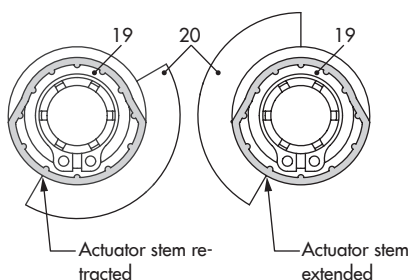
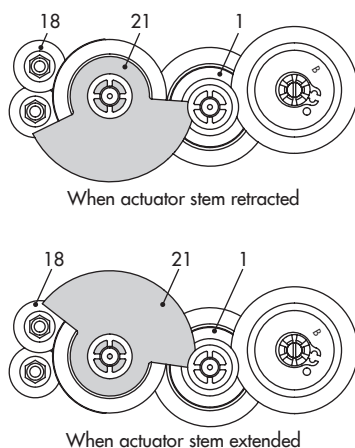
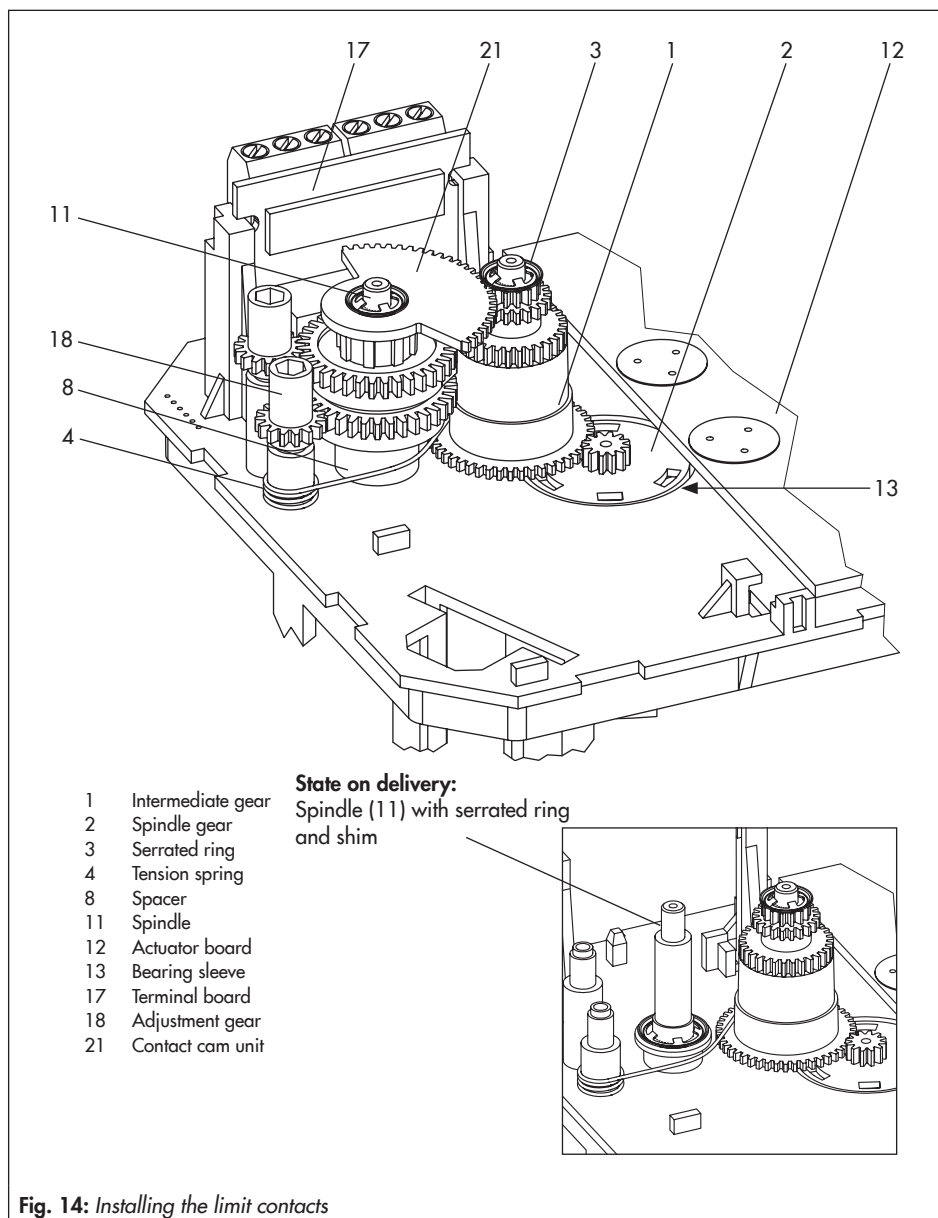

Fig. 12: Alignment of contact cam and cam holder
Fig. 13: Alignment of the contact cam unit
Fig. 14: Installing the limit contacts
Installing limit contacts (Fig. 12 to Fig. 14):
The contact cams (19) are ready-mounted to the cam holder (20) and the retaining rings (9) to form the contact cam unit (21, see Fig. 14).
3. Remove serrated ring and shim from spindle (11).
4. Slide adjustment gears (18) onto their spindles and fasten with one screw (16) each. Check whether the adjustment gears can be turned easily. If not, slightly loosen its screw again.
5. Turn contact cams (19) on the cam holder (20) as illustrated in Fig. 12 corresponding with the position of the actuator stem.
6. Slide the spacer (8) onto the spindle (11). Make sure that the long wire of the tension spring rests on the spacer and on the intermediate gear.
7. Slide the contact cam unit (21) onto the spindle corresponding with the position of the actuator stem as illustrated in Fig. 13. Make sure that the outermost cog of the contact cam unit engages in the gearwheel of the intermediate gear (1). In addition, the adjustment gears (18) must engage properly in the corresponding gears of the contact cam unit (21).
8. Secure the contact cam unit (21) and intermediate gear (1) with the serrated ring (3); push down the serrated ring as far as it will go.
9. Position the terminal board (17) at the base of the support at a 45° angle (approx.) with the switches pointing towards the gears. Swivel the upper end of the terminal board towards the gears until the board is in a vertical position and properly engaged in the support.
3. Position the terminal board (17, see Fig. 14) at the base of the support at a 45° angle (approx.) with the relay pointing towards the edge of the intermediate board. Swivel the upper end of the terminal board until the board is properly engaged.